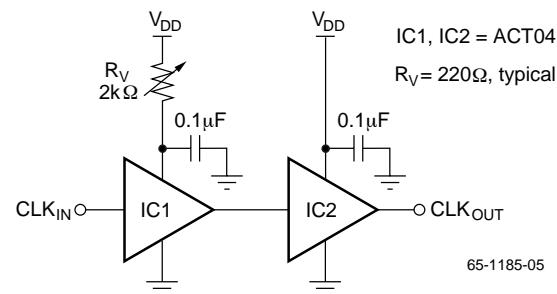

Figure 4. Clock Skew Circuit
- For most applications, the clock duty should be set to 50%. However, for applications requiring no missing codes, a slight skew in the duty cycle will improve DNL performance for conversion rates >35MHz and input frequencies <2MHz (see Timing Diagram). A possible method for skewing the 50% duty cycle source is shown in Figure 4.